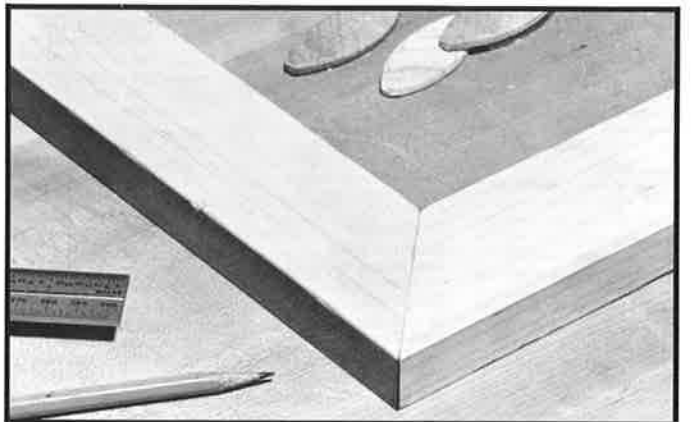

Fig. 49
3. Apply glue to the inside of biscuit slots, insert biscuit and press the two pieces of wood together, as shown in Fig. 49.